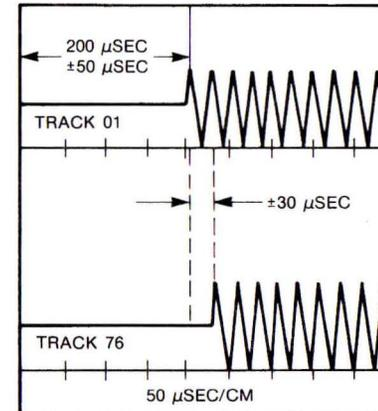

FIGURE 4-12. INDEX SENSING ALIGNMENT WAVEFORM
4. Observe the waveform. The time period should be 200 microseconds \pm 50 microseconds until the first data pulse as shown in Figure 4-12. If it is not, adjust the appropriate index detector (see Figure 4-4).
7. Observe waveform. It should be within \pm 30 microseconds of the time period observed or adjusted for track 01 in Step 4 (see Figure 4-12). If the waveform time period is not within this specification, the deviation may be caused by misaligned track position actuator, broken carriage, or damaged Field Service Alignment disc.